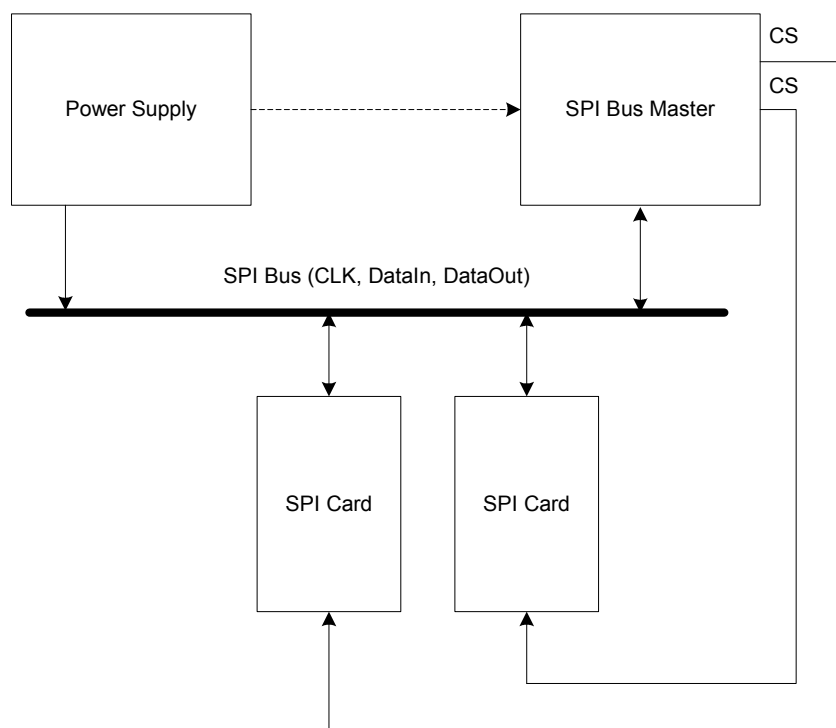

Figure 3-5. miniSD Card Bus System
The miniSD Card identification and addressing algorithms are replaced by the hardware Chip Select (CS) signal. A card (slave) is selected, for every command, by asserting (active low) the CS signal (see Figure 3-5). The CS signal must be continuously active for the duration of the SPI transaction (command, response and data). The only exception is card-programming time. At this time the host can de-assert the CS signal without affecting the programming process.